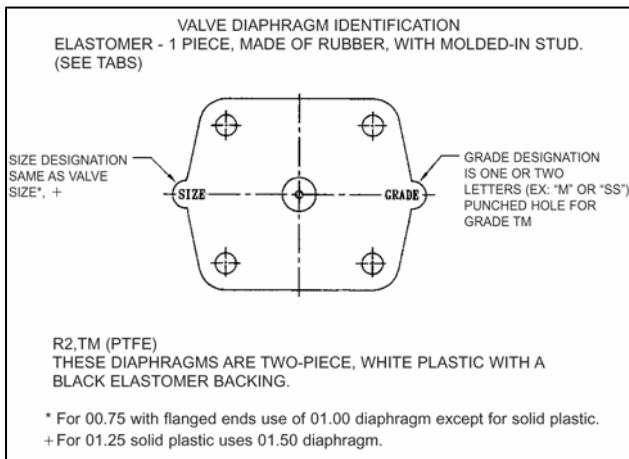

Figure 3
5. Replacement diaphragm should be identical size and grade as original diaphragm. See Figure 3 for location of size and grade marking.